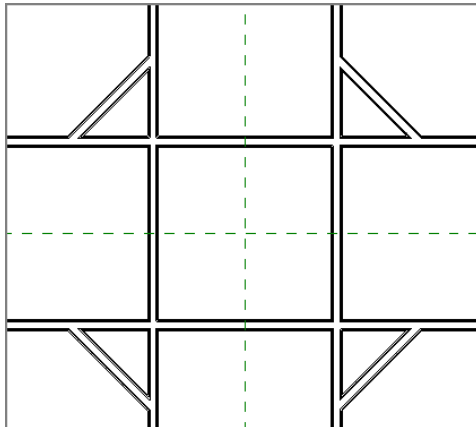

FIGURE 2.44: Stuck inside these four walls
4. Select the two 45° walls, and mirror them around the horizontal reference plane. You should now have four 45° walls, as shown in Figure 2.44.